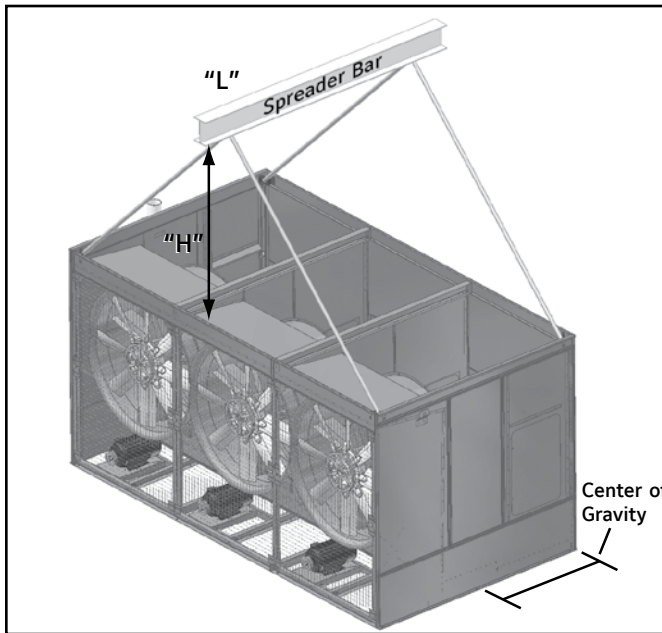

Figure 1
1. Rig the basin section. The rigging hook must be placed above the section's center of gravity as detailed in Figures 1 and 2.